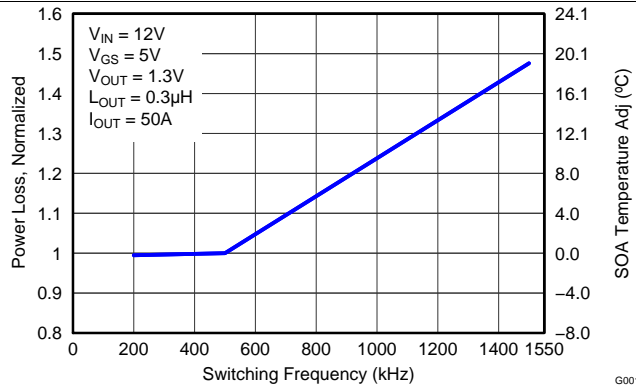

Figure 7. Normalized Power Loss vs Switching Frequency
- Normalized power loss for switching frequency ≈ 1.15 (Figure 7)